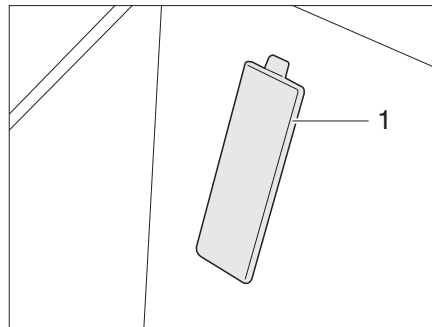

Fig. 403 Cover for chassis number (Fiat base vehicle)
- ▷ For vehicles on a Fiat chassis, the chassis number is located behind a cover (Fig. 403,1) in the entrance on the front passenger's side.